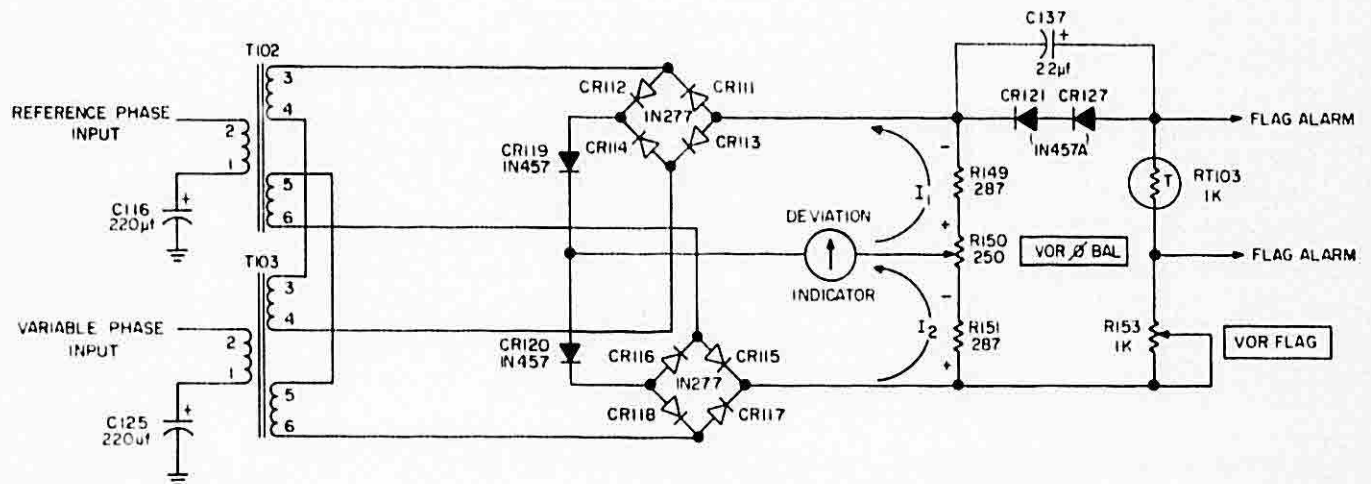

FIGURE 4-9 SIMPLIFIED DEVIATION PHASE COMPARATOR
4.5.4 DEVIATION PHASE COMPARATOR (Figure 4-9)